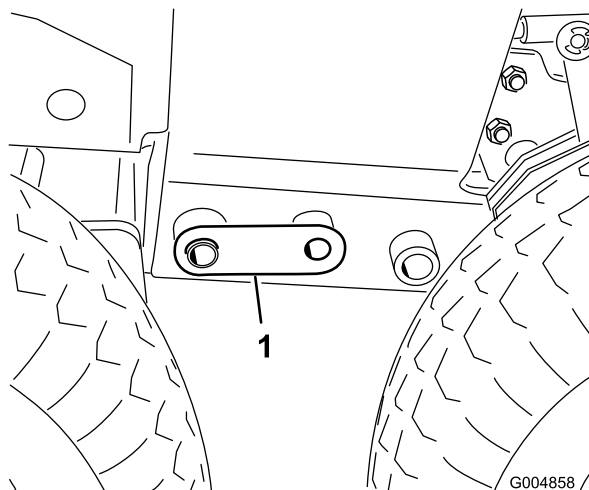

Figure 85
28. Remove the front jack stand and lower the front of the machine onto the tires until the coupler pins (Figure 85) are loose enough to be removed.